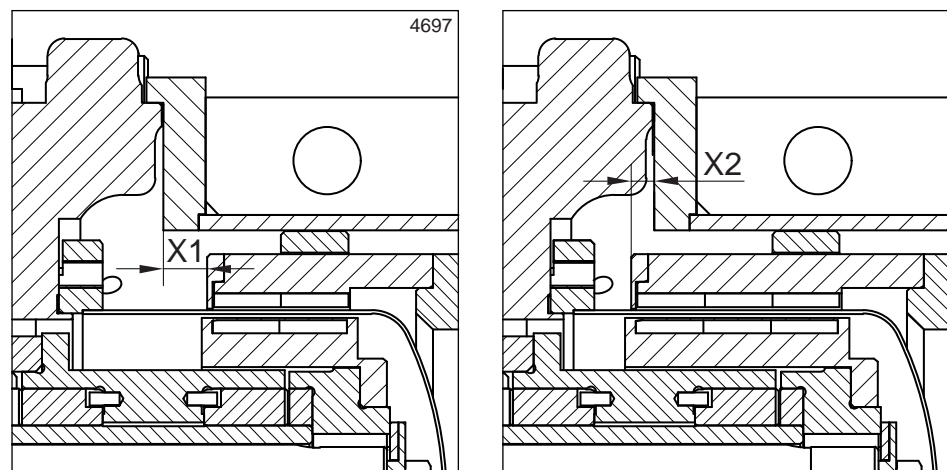

Figure 8: Settings X1 or X2.
- 10 For a final check measure the distance X1 or X2 (see figure 8) between the end of the outer rotor and the fitting edge of the lantern piece and compare it with the corresponding value in the table below.